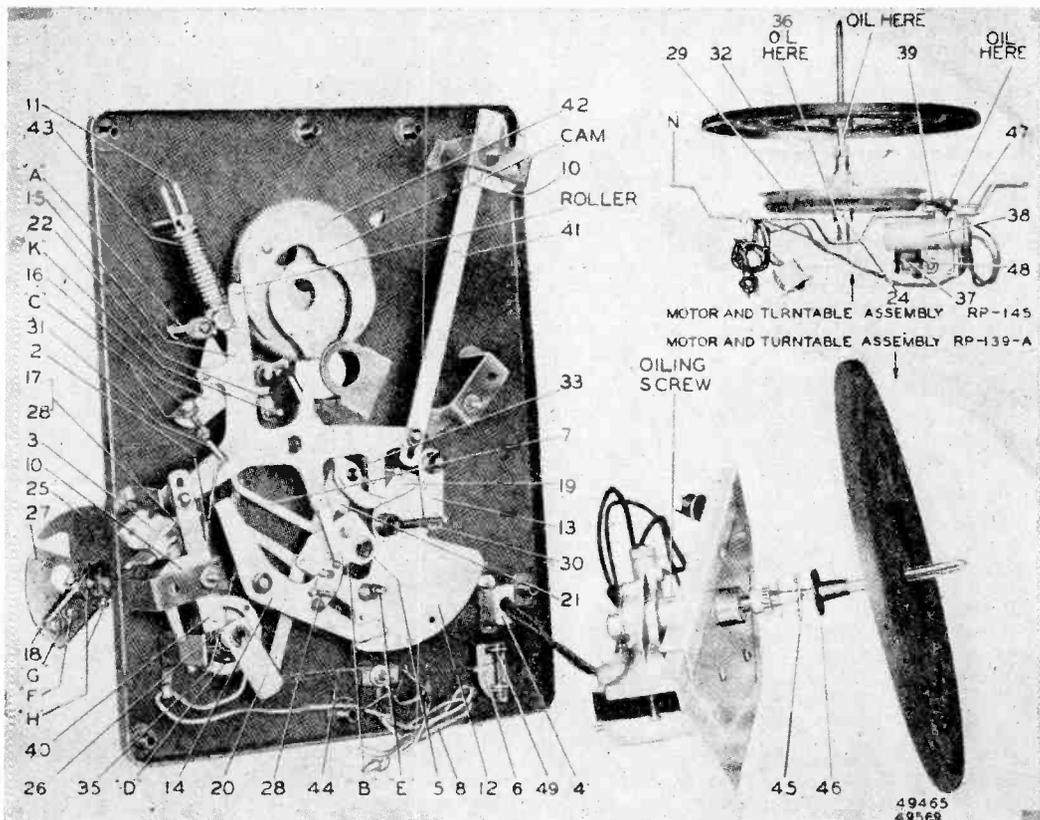
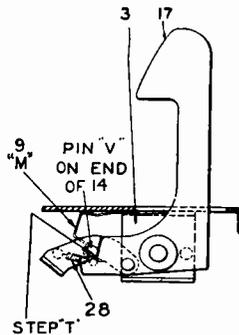

Fig. 1—The RCA Model RP-145 Record Changer
Fig. 2
ANOTHER popular record changer is the RCA RP-139-A and RP-145 shown in Fig. 1. The RP-139-A and RP-145 automatic record changers are very similar in design and construction. Most of the parts and adjustments are identical on both. The RP-139-A turntable is driven through a worm gear in the motor housing while the RP-145 turntable is driven through a friction drive disc mounted on the turntable spindle.
The RP-145 turntable is not removable from the spindle. However, the rubber tire driving disc is fastened to the spindle by means of a tapered pin (see 24, Fig. 1). If necessary to remove these parts, the tapered pin should first be removed. The driving disc can then be removed from the spindle, and the turntable and spindle assembly is lifted upward from the motorboard. If this is done, great care should be taken not to bend the spindle. At the same time the spindle bearing should be oiled and the cup and ball thrust bearing oiled and checked for proper position. Before
**B. Friction Clutch.**—The motion of the tone arm toward the center of the record is transmitted to the trip pawl (22) by the trip lever (7) through a friction clutch (5). If the motion of the pickup is abruptly accelerated or becomes irregular, due to swinging in the eccentric groove, the trip finger (7) moves the trip pawl (22) into engagement with the pawl on the main gear, and the change cycle is started. Proper adjustment of the friction clutch (5) occurs when movement of the tone arm causes positive movement of the trip pawl (22) without tendency of the clutch to slip. The friction should be just enough to prevent slippage, and is adjustable by means of screw (B). If adjustment is too tight, the needle will repeat grooves; if too loose, tripping will not occur at the end of the record.
**C. Pickup Lift Cable Screw.**—During the record change cycle, lever (16) is actuated by the main lever (15) so as to raise the tone arm clear of the record by means of the pickup lift cable. To adjust pickup for proper elevation, stop the changer "in-cycle" at the point where pickup is raised to the maximum height above turntable plate, and has not moved outwards; at this point adjust locknut (C) to obtain 1 inch spacing between needle point and turntable top surface.
**D. & E. Needle Landing on Record.**—The relation of coupling between the tone arm vertical shaft and lever (20) determines the landing position of the needle on a 10 inch record. The position of eccentric stud (E) governs the landing of the needle on a 12 inch record; this, however, is dependent on the proper 10 inch adjustment.
To adjust for needle landing, place 10 inch record on turntable; push index lever to reject position and return to the 10 inch position. Referring to Fig. 2, see that pickup locating lever (17) is tilted fully toward turntable; rotate mechanism through cycle until needle is just ready to land on the record; then see that pin (V) on lever (14) is in contact with "Step T" on lever (17). The correct point of landing is 4 & 5/8 inches from the nearest side of the turntable spindle. Loosen the two screws (D), see Fig 1, and adjust horizontal position of tone arm to proper dimension, being careful not to disturb levers (14) and (17). Leave approximately 1/32 inch end play between hub of lever (20) and pickup base bearing, and tighten the blunt nose screw (D); run mechanism through several cycles as a check, then tighten cone pointed screw (D).